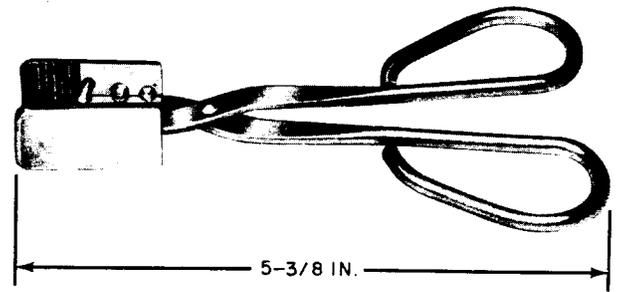

Fig. 10—KS-19898, L1, Extractor
2.11 KS-19898, L1: The KS-19898, L1, extractor (Fig. 10) is used to remove the 372A and similar-type patching plugs from the A2A Video System.